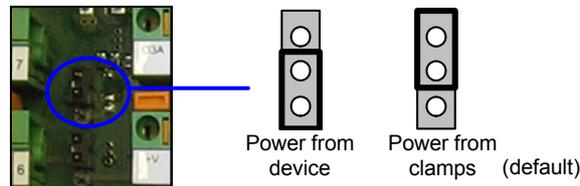

Figure 3 - Power Source Jumper Settings
- *Connect the Network Cable Shield (Shield) to Filtered Earth through the jumper (default setting, see Figure 3).*
To power SC4000 from the data source, the power source jumper must be placed in the "power from device" position as indicated in Figure 3.